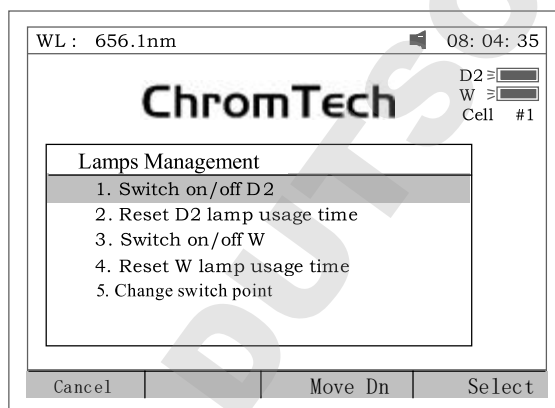
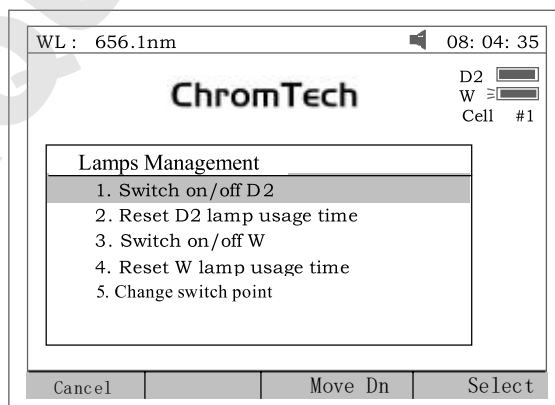
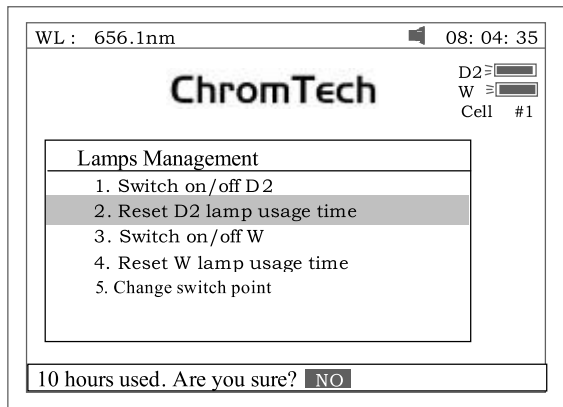
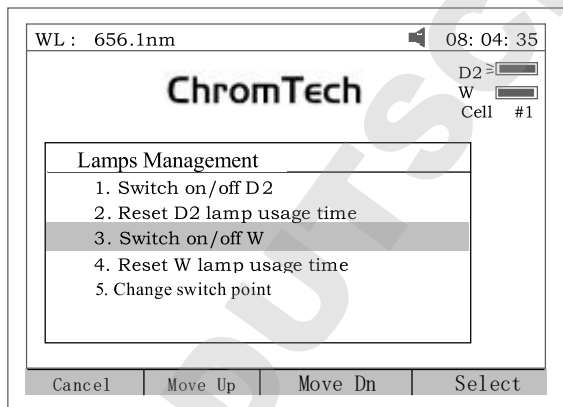

Fig 78
Fig 79
Fig 80
Fig 81
Press **【3】** to set lamp (Fig 78). **【ESC】** to exit.
1. Press **【1】** in Fig 78 to switch on/off D2. (Fig 79). Pay attention to the D2 icon on the top of the right screen.
2. Press **【2】** in Fig 78 to reset usage time of D2(Fig 80). Press **【^】** or **【v】** to select “Yes” or “No”, and then press **【ENTER】**.
- Press **3** in Fig 78 to switch on/off W. The indication is also on the top right corner of the screen (Fig 81).
- Press **4** in Fig 78 to reset usage of W (Fig 82). Press **^** or **v** to select “Yes” or “No”, and then press **ENTER**.
- Press **5** in Fig 78 to set the switch usage wavelength point of D2 and W lamp (Fig 83).